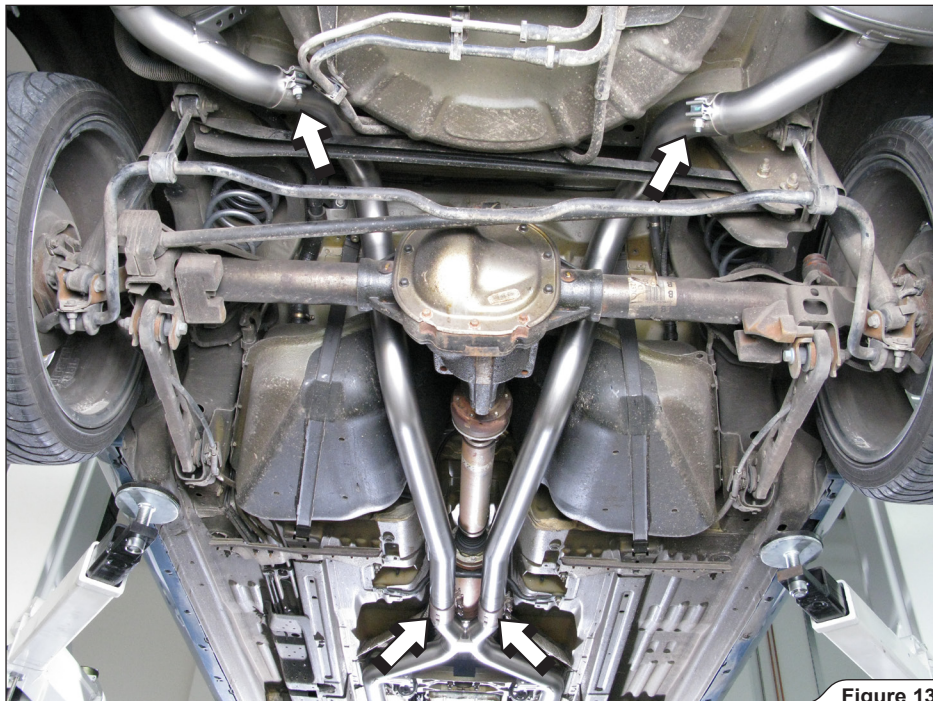

Figure 13
7. **For Slip-On and Evolution:** first, slide the stock (**Slip-On**) or Akrapovič (**Evolution**) middle pipes into the mufflers' bushes and then slide stock clamps over the middle pipes - front pipes joints (**Figure 13**).